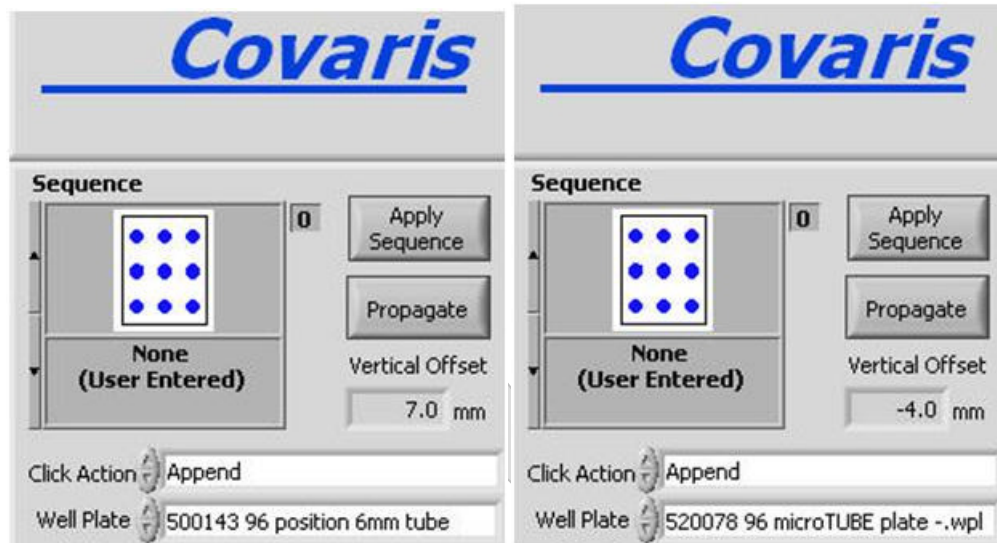

Figure 8: Select microTUBE or microTUBE plate format from “Well Plate” menu.
2.2.2. From the “Well Plate” menu, select tube or plate format. See Figure 8.